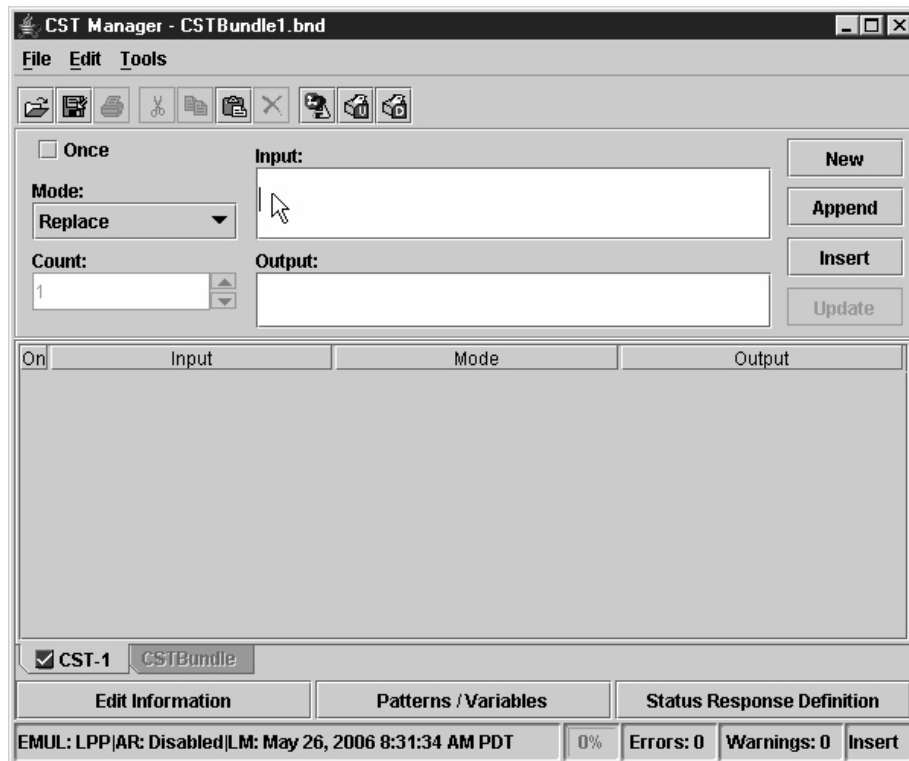

Figure 150. Selecting the Input Field
15. Click the **Input** field to place the cursor. See Figure 150.